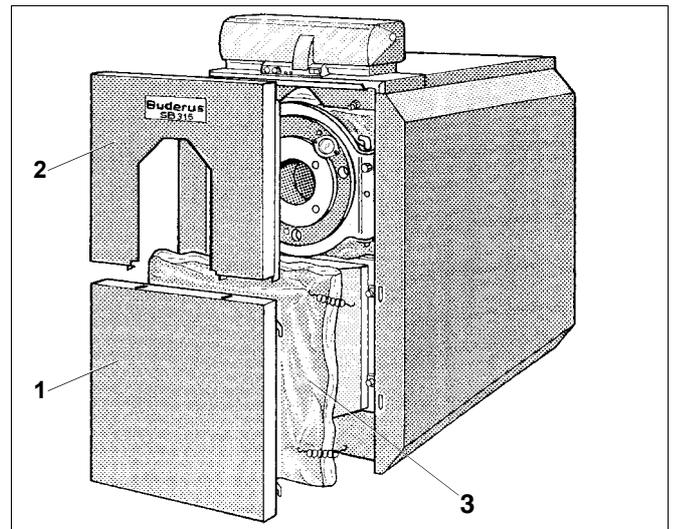

Fig. 28 Cleaning the SB315
- Remove the upper (Fig. 28, **item 2**) and the lower front panel (Fig. 28, **item 1**).
- Remove the thermal insulation mat (Fig. 28, **item 3**).
- Install the lower and upper boiler front panels (Fig. 28).